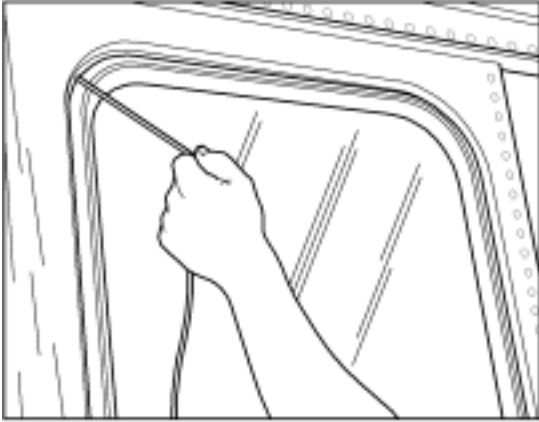

Figure 6—Entrance Door Glass Replacement
| Warnings | 2 | Figure 6—Entrance Door Glass Replacement | 6 |
1. Apply pressure against glass from the outside of the bus, starting at a corner, push glass and glazing rubber off metal flange. **Figure 6.**
6. Wrap a cord around the glazing rubber and rest glass on bottom window flange from the inside of the bus body. **Figure 6.**